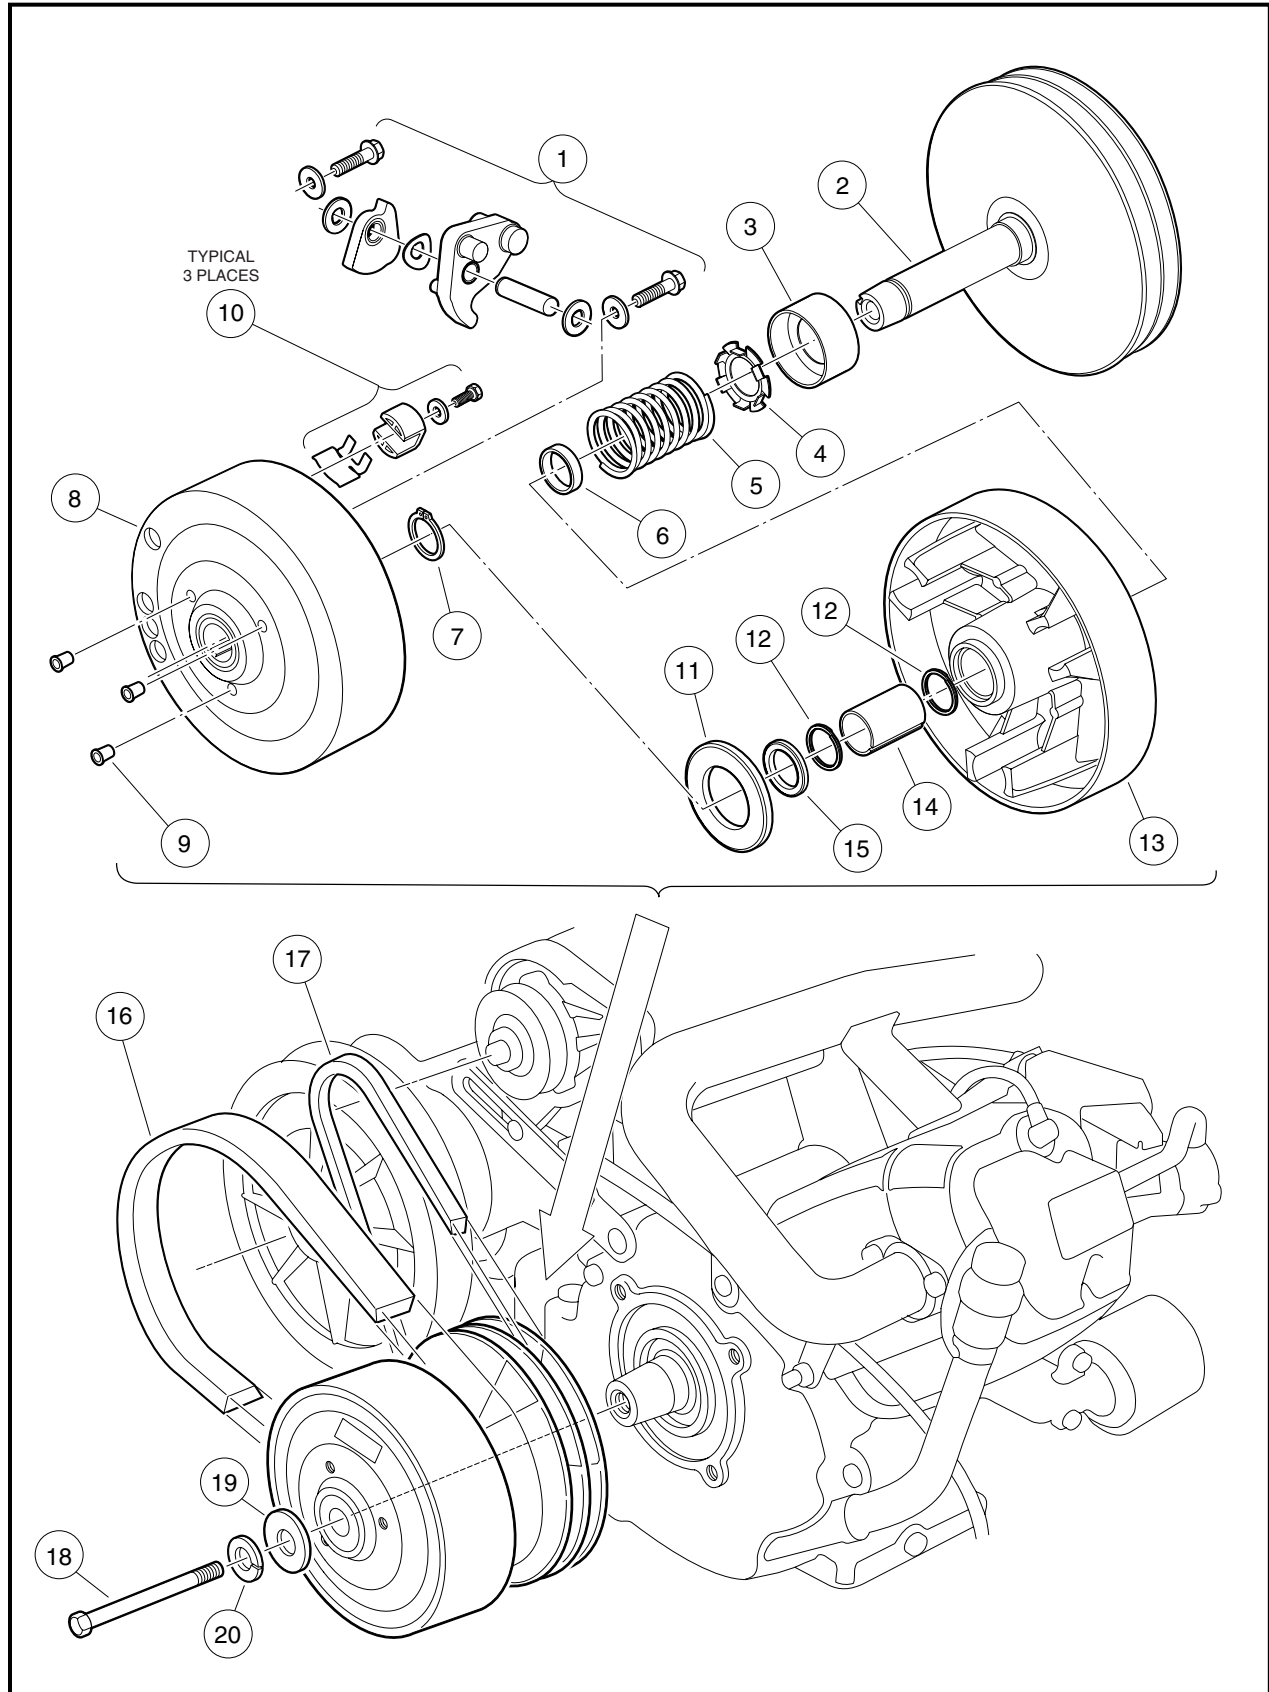
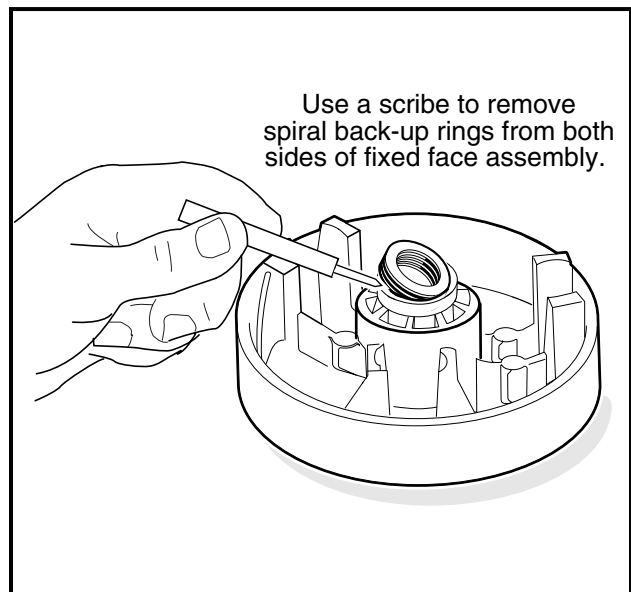
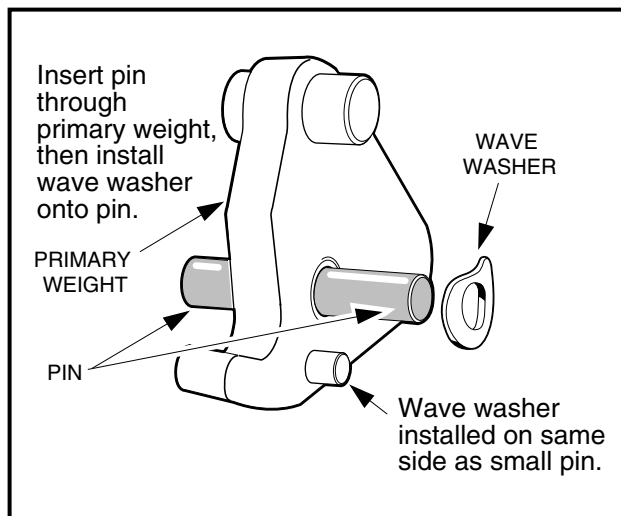

Figure 17-7 Drive Clutch Assembly
Figure 17-11 Spiral Back-up Rings
Figure 17-12 Install Pin and Washer
3. If cleaning both clutches does not solve the problem, disassemble and thoroughly clean all parts in the drive clutch. Be sure to clean the plastic drive buttons (10) **(Figure 17-7, Page 17-8).**
6. Remove the drive clutch retaining bolt (18), lock washer (20) and mounting washer (19) (**Figure 17-7, Page 17-8**).
- Use only a dry cloth to lightly wipe the shaft (2) of the fixed face assembly (Figure 17-7, Page 17-8). Do not use a brush or steel wool. These will damage the surface of the shaft.
2. Remove the clutch drive hub (8) (Figure 17-7, Page 17-8).
- 2.1. Remove the three plastic plugs (9) from the clutch puller attachment holes in the drive hub (8) (Figure 17-7, Page 17-8).
- 2.4. Unscrew the hub puller center bolt from the clutch, forcing the stop nut up against the puller plate, lifting the drive hub (8) from the fixed face shaft (2) (Figure 17-7, Page 17-8).
3. Remove the thrust washer (11) from the moveable face (13).
- 5.3. Remove the plastic washers, weights and wave washer from the pins. Before removing, note the orientations of the wave washer and of the primary and secondary weights to one another (**Figure 17-12, Page 17-10 and Figure 17-13, Page 17-10**). Retain all parts.
6. Remove the retaining ring (7) from the shaft of the fixed face assembly (2) and slide the moveable face (13) off the shaft (**Figure 17-7, Page 17-8**). **See following NOTE.**
**NOTE:** *When the moveable face is removed from the hub of the fixed face, the spiral back-up rings (12) must be replaced with new ones at time of reassembly (**Figure 17-7, Page 17-8**).*
7. Remove the spacer (6), spring (5) and retainer (4). The spring retainer (4) can be removed from the spring if necessary (**Figure 17-7, Page 17-8**).
9. Use a scribe or small pick to remove the spiral backup rings (12) from each end of the bore in the fixed face assembly (**Figure 17-7, Page 17-8**). **See also Figure 17-11, Page 17-9.** Discard the rings.
1. Inspect the idler bearing (3) for smooth rotation or seal damage (**Figure 17-7, Page 17-8**).
2. Inspect the bore of the moveable face assembly (13) for scarring or wear. The moveable face assembly must be replaced if the bore is worn to a diameter of 0.883-inch (22.4-mm) or larger (**Figure 17-7, Page 17-8**).
3. Inspect the steel shaft (2) on the fixed face assembly. There should be no noticeable wear anywhere on the shaft. Replace the shaft if it is worn, scratched, or damaged.
4. Inspect the thrust washer (11) for wear. If it is worn more than 0.030-inch (0.76-mm), turn it over or replace it with a new one.
5. Inspect the primary weights and the hub casting for wear. If the primary weights show signs they are touching the casting, the tips of the weights have worn beyond specification and they must be replaced (**Figure 17-12, Page 17-10**).
1. Press idler bearing (3) onto the shaft of the fixed face assembly (2). Press on the inner race of the bearing only. Make sure that the cup side of bearing is facing away from the fixed face (**Figure 17-7, Page 17-8**).
2. Use a needle nose pliers to install the spring retainer (4) onto the spring (5).
3. Install the spring (5) and retainer (4) into the cup of the idler bearing (3).
4. Install the spacer (6) onto the shaft of the fixed face.
5. Install a new spiral backup ring (12) in each end of the bore of the moveable face assembly (13).
6. Install the moveable face assembly (13) onto the shaft of the fixed face assembly (2). **See following CAUTION.**
- 6.2. Install the retaining ring (7) (**Figure 17-7, Page 17-8**).
7. Install the primary weights on the mounting pins (**Figure 17-12, Page 17-10**).
8. Install a wave washer on each mounting pin. Make sure that the concave side of the washer faces the side of the primary weight with the small guide pin protruding from it (**Figure 17-12, Page 17-10**).
12. Install the 1/4-20 screws and washers (1) and tighten them to 10 ft-lb (13 N-m) (**Figure 17-7, Page 17-8**). See following **NOTE**.
16. Install the thrust washer (11) onto the moveable face assembly (**Figure 17-7, Page 17-8**).
17. Install the hub assembly (8) on the moveable face assembly and align the match marks made before disassembling the clutch. Press the hub assembly on by hand.
18. Replace the three plastic plugs (9) into the hole protectors (**Figure 17-7, Page 17-8**).